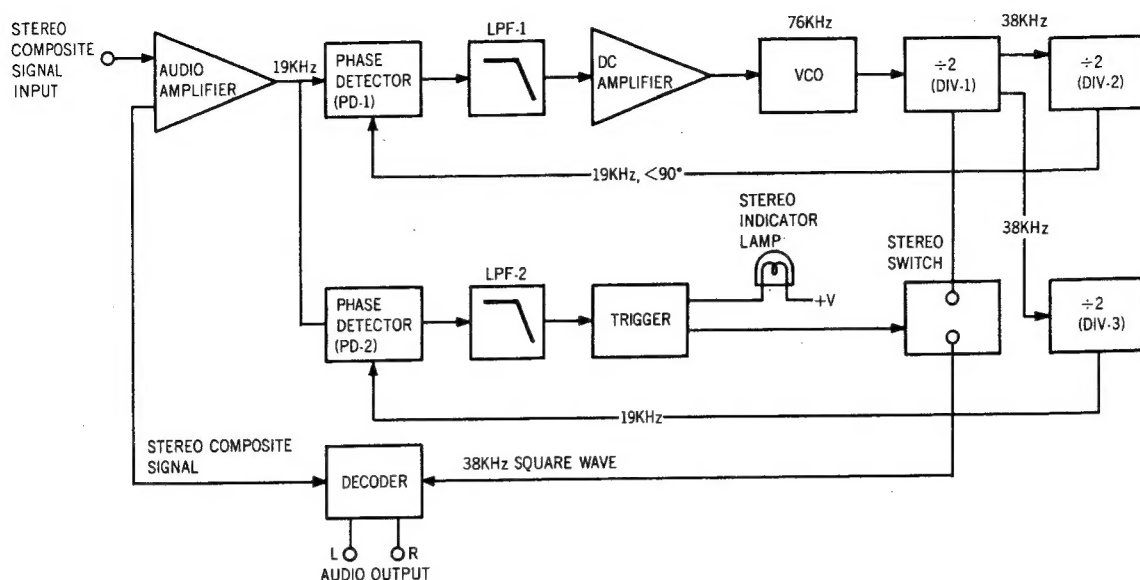

Figure 1. Block Diagram of the HA1156
Figure 1 presents an internal block diagram showing the functions of the PLL basis MPX stereo decoding IC HA1156. The input stereo composite signal, amplified by the audio amplifier, is delivered to the phase detectors PD-1 and PD-2. A part of the stereo composite signal is also delivered to the stereo decoder section. The VCO (Voltage Control Oscillator) produces a free run oscillation in the neighborhood of 76kHz with the time constant determined by a capacitor C303 and resistors R304 and R305 set on the outside of pin ⑭. The VCO output has its frequency divided into 19kHz through the two frequency divider stages (DIV-1, DIV-2), and is reversed to the phase detector PD-1, which contains two input terminals designed to produce an output in proportion to the product of the two input signals.